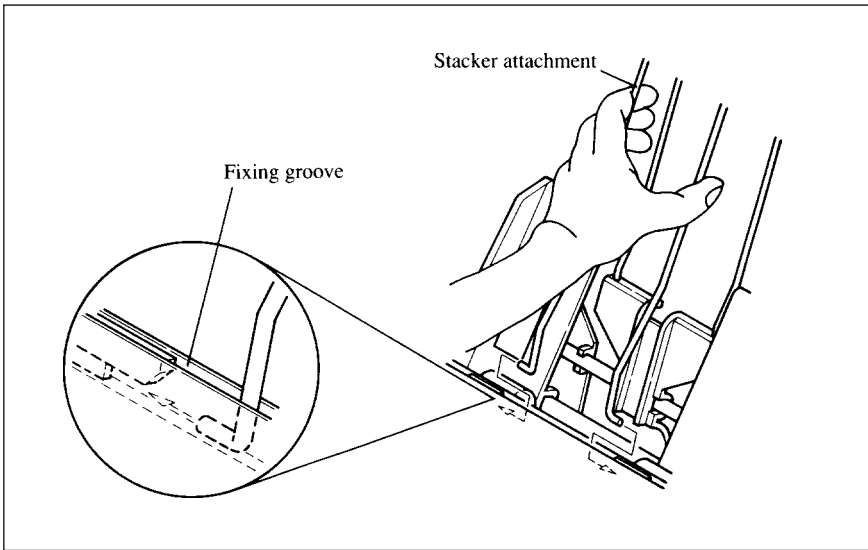

Figure 7-6. Insert the stacker attachment.
8. Insert the stacker attachment, squeezing it with your hand, into the fixing groove in the front part of the sheet feeder as shown in Figure 7-6.